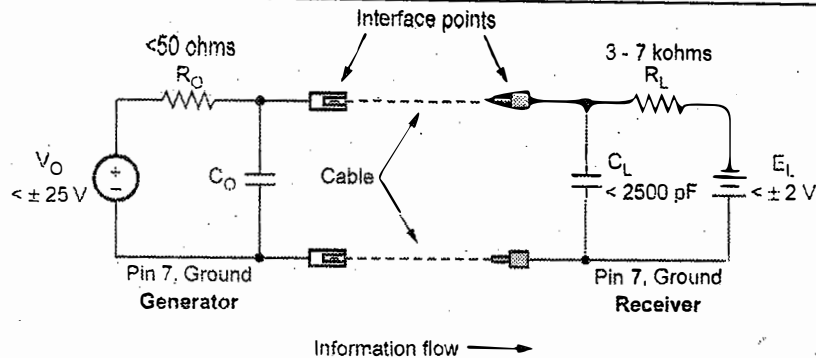

Fig. Q.1.2 Signal characteristics of RS232
**Signal characteristics of RS232 :** This is the equivalent circuit for an EIA232 signal line and applies to signals originating at either the DTE or DCE side of the connection. "Co" is not specified in the standard, but is assumed to be small and to consist of parasitic elements only. "Ro" and "Vo" are chosen so that the short-circuit current does not exceed 500 mA. The cable length is not specified in the standard; acceptable operation is experienced with cables that are less than 25 feet in length as shown in Fig. Q.1.2.